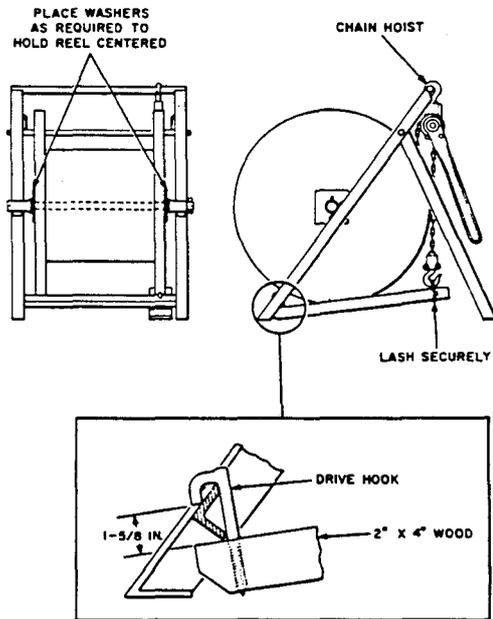

Fig. 3 — Brake for Strand Payout Frame
4.04 Brake the reel to prevent overrunning when left unattended. Fig. 3 shows an adjustable brake which can be made locally.